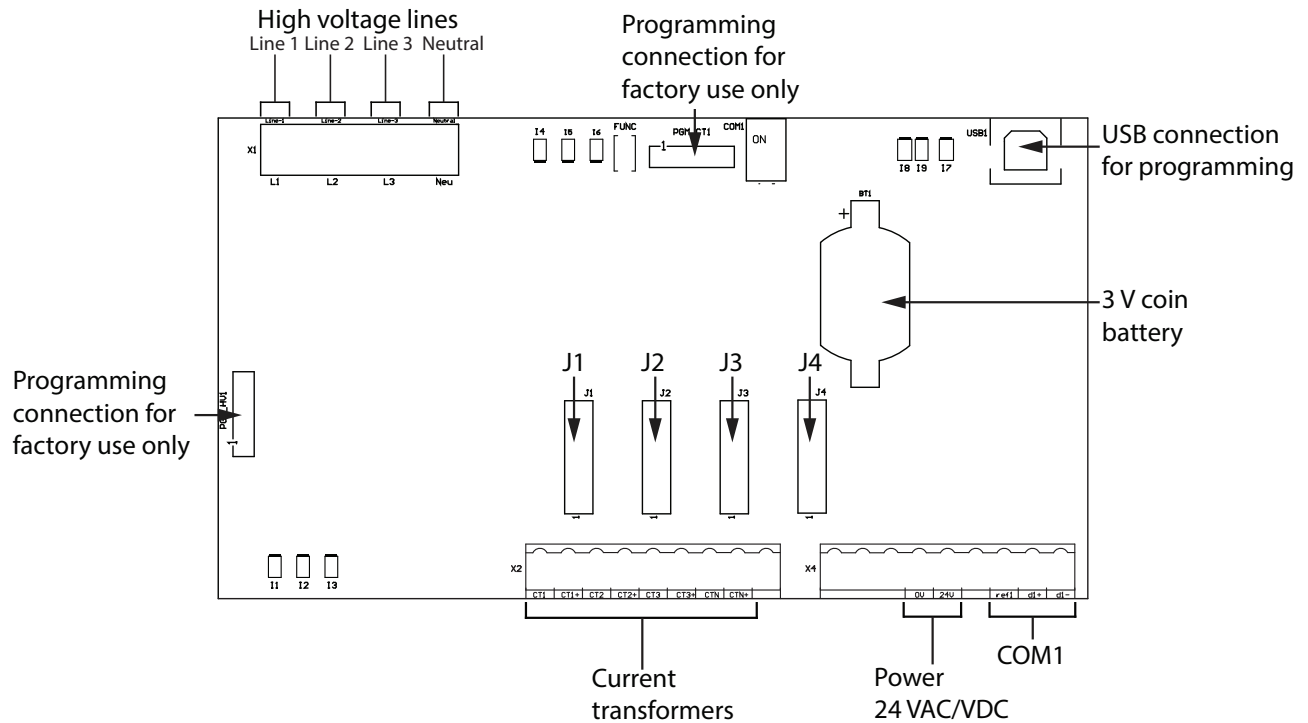

Figure 4 Board connections
The full speed USB 2.0 connection is shown in Figure 4. Connect a computer to this port in order to configure the controller.
6. Connect the new battery to the connector shown in Figure 4.
Figure 4 on page 11 shows the location of the terminals. The terminals are depluggable for ease of wiring.